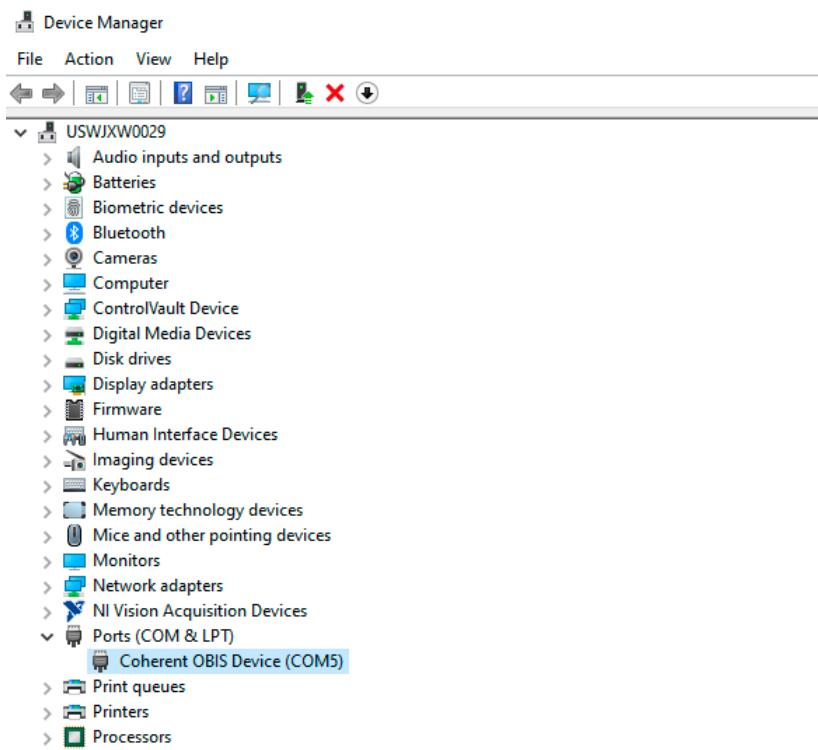

Figure 7-5. Identify the COM Port
2. To determine which COM port is assigned to the OBIS laser, open the Device Manager on the computer. Look for *Coherent OBIS Device* under the *Ports (COM & LPT)* heading, as shown in the example in Figure 7-5.